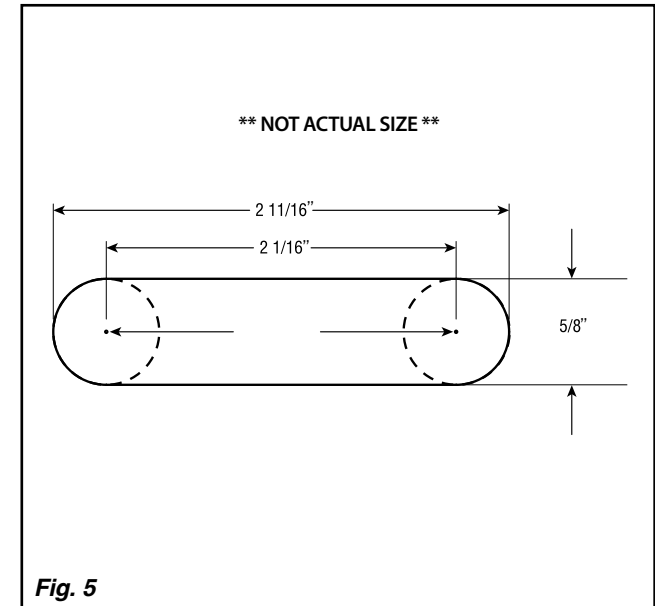

Fig. 5
**Step 2:** Refer to the dimensions in Fig. 5 to create the opening in your dash for the indicator. Use a center punch to mark your dash panel with the two drill locations. Drill both holes using a 1/8" drill bit. Then, drill the holes out to the maximum of 5/8" diameter in small steps.